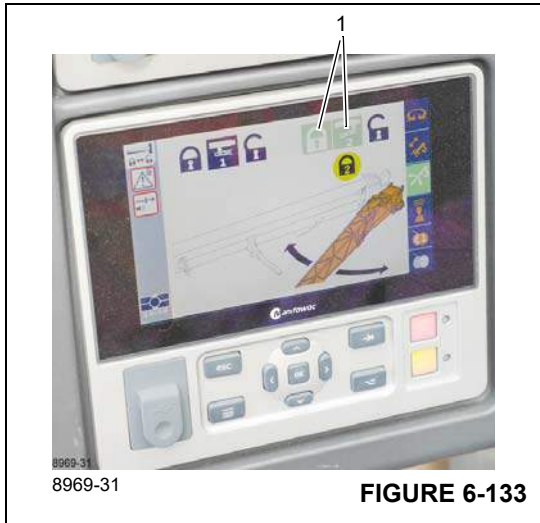

FIGURE 6-133
- Select pin #2 lock (1), (Figure 6-130), the pin #2 icons turn green (1), (Figure 6-133). The lever handle (1), (Figure 6-131) should move up and the cable pins (1), (Figure 6-132) should retract from the attachment pins (2), (Figure 6-128).